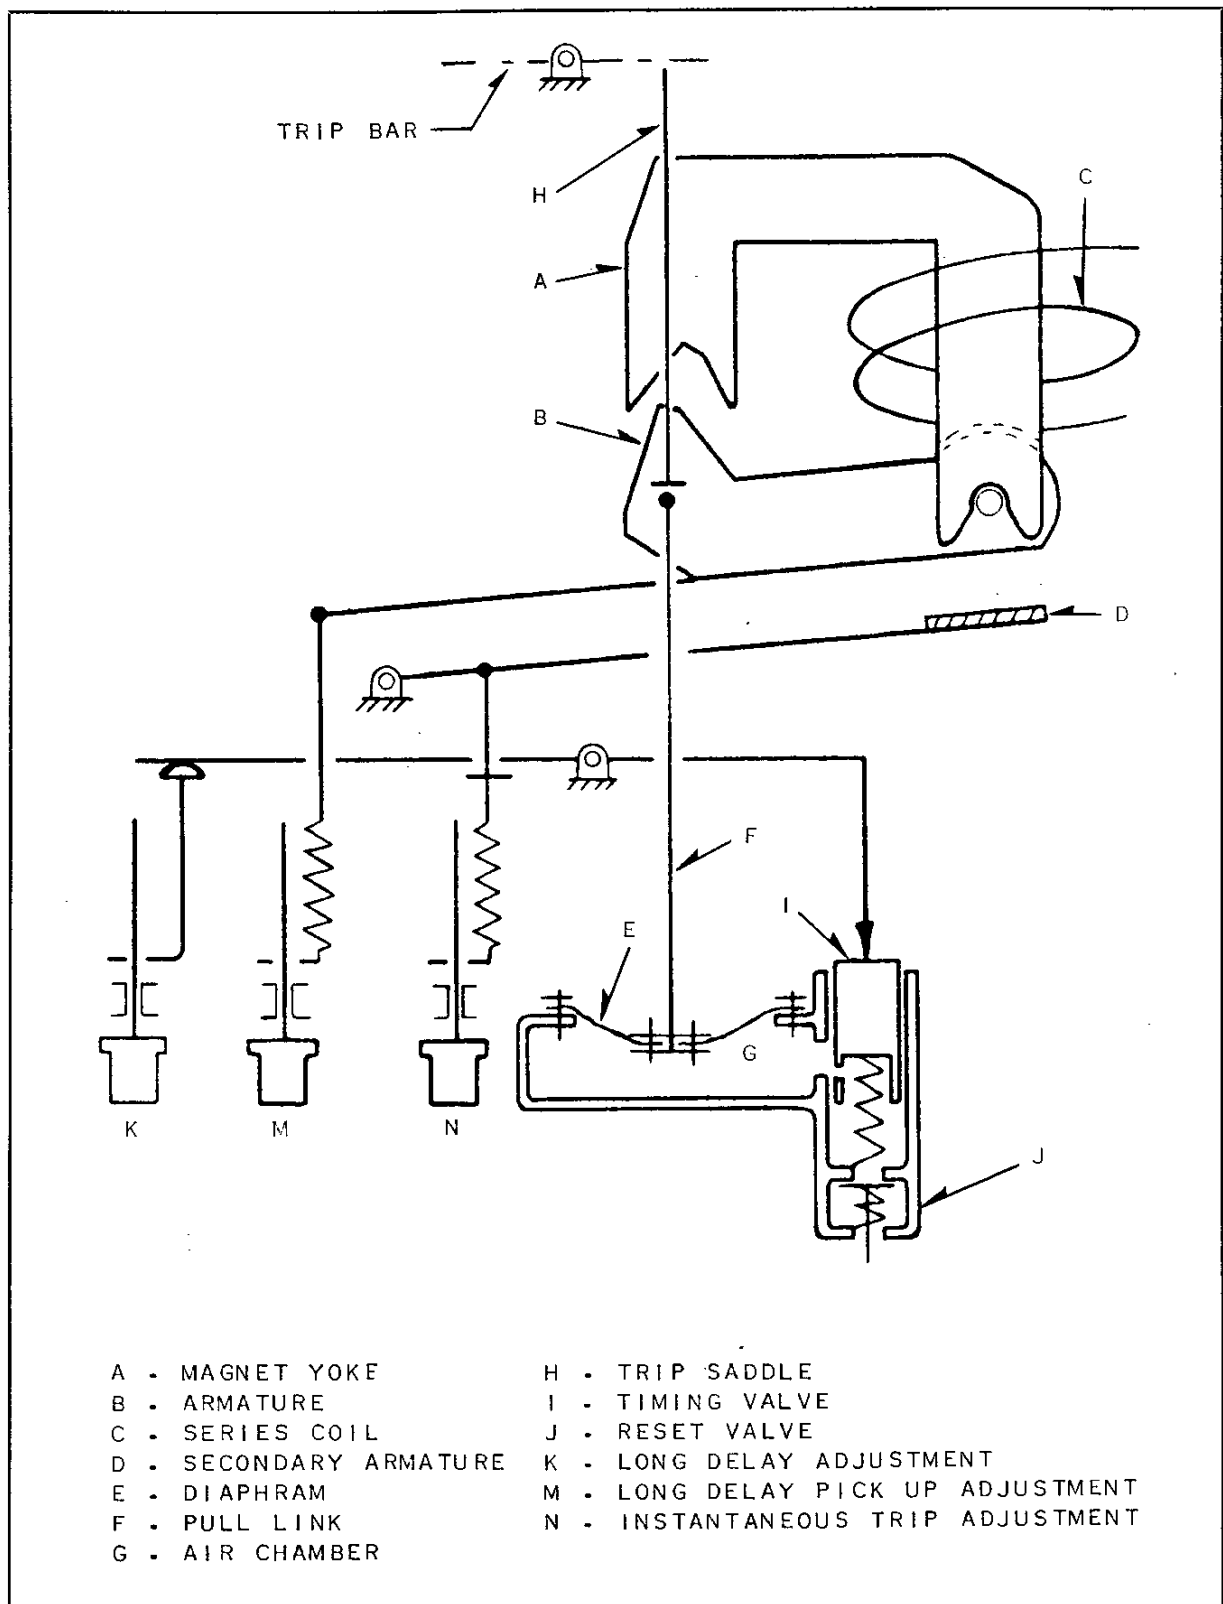
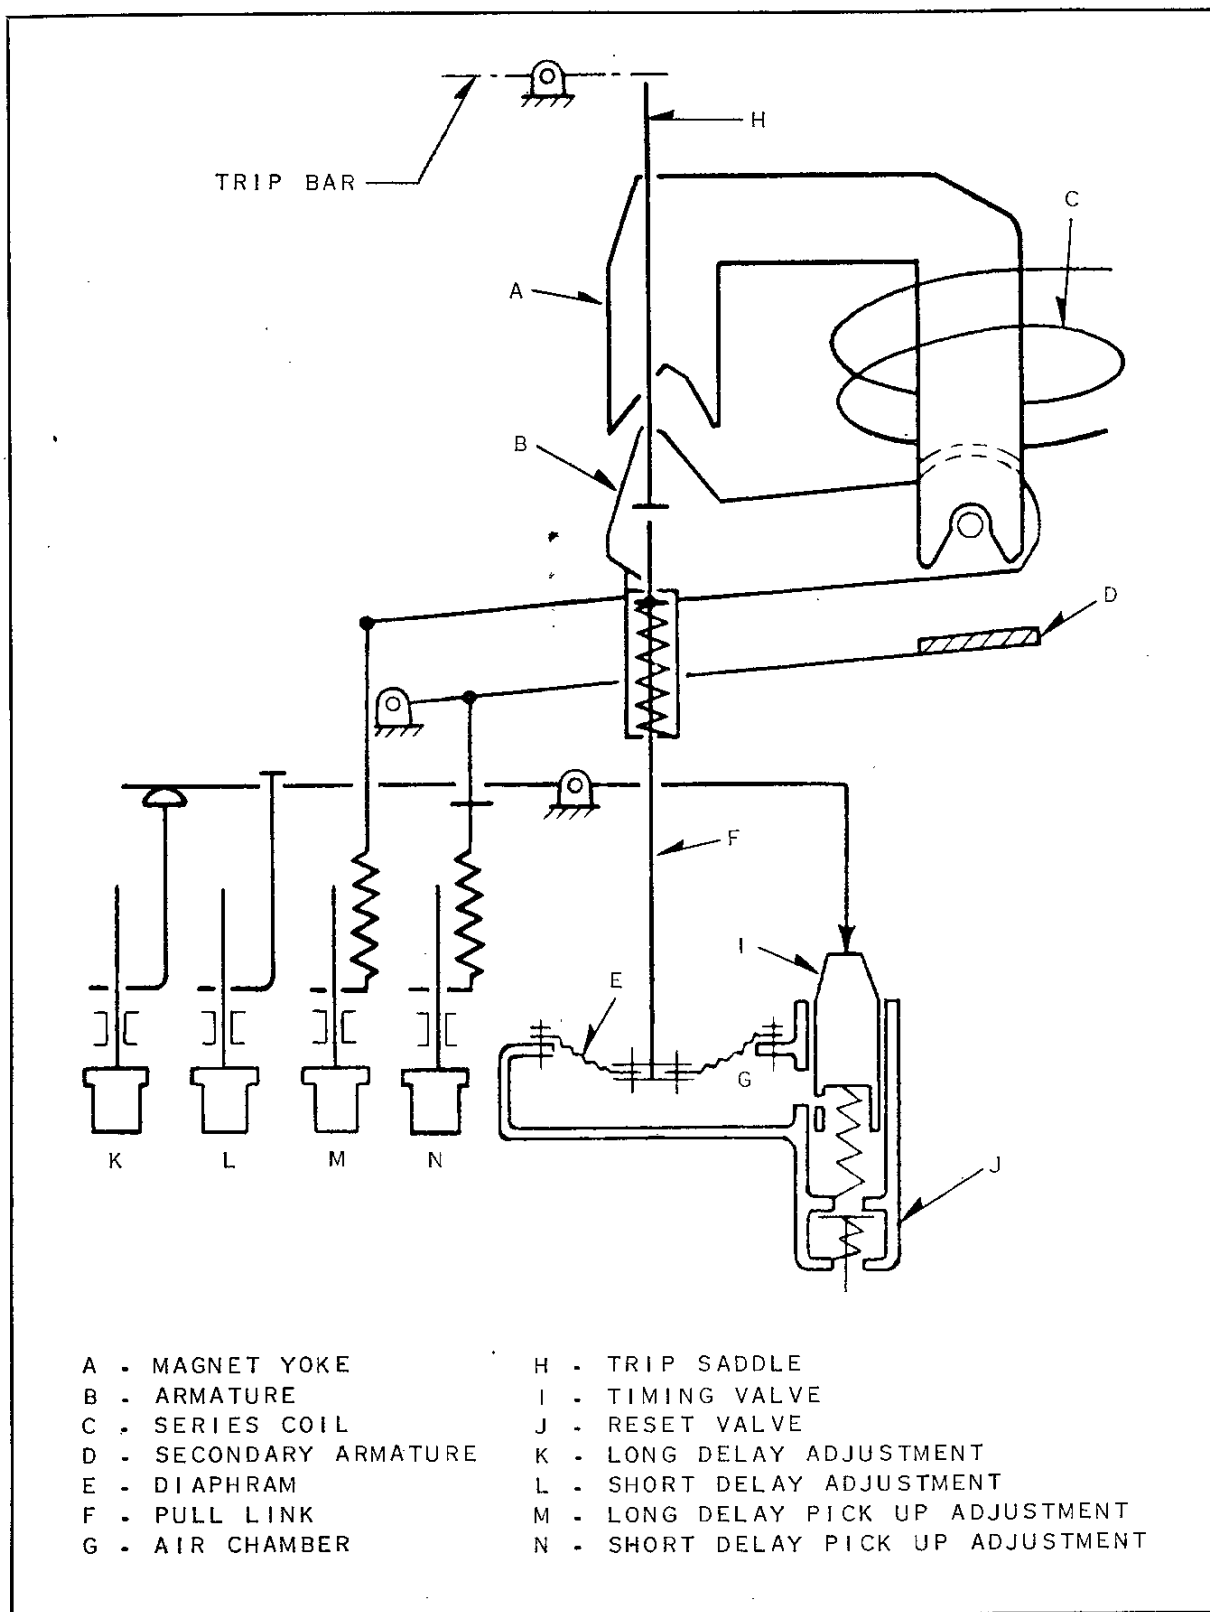

FIG. 7C. Schematic Diagram—Dual Overcurrent Series Tripping Device DB-15 and DB-25 Load Circuit Breakers
FIG. 7D. Schematic Diagram—Dual Selective Overcurrent Series Tripping Device DB-15 and DB-2S Group or Tie Circuit Breakers
#### 1—Dual Overcurrent Tripping Device for Load Breakers, Fig. 7C
## 2—Dual Selective Overcurrent Tripping Device for Group and Tie Breakers, Fig. 7D
The operation of this selective device is the same as the dual overcurrent tripping device, except, that in this case, the long delay and instantaneous valve (I) in Figure 7C is replaced with a long delay and short delay valve (I) Figure 7D, which operates the same, except, when valve (I) Figure 7D is forced down by the secondary valve on fault currents it controls the size of orifice to give the tripping time required in the fault current short delay region.
By turning the adjustment knobs K-M-N Fig. 7C and K-L-M-N Fig. 7D, the settings of the various time and pick-up elements can be changed. A clockwise movement of any one of the knobs will increase the setting and a counterclockwise movement will decrease the setting.